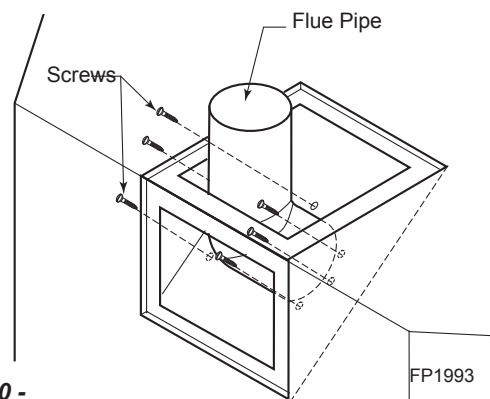

Figure 10 - Attach Flue Pipe to Top Vent Configurations
5. Replace flue pipe to top of firebox. Ensure the gasket is in place and undamaged. Secure with six (6) screws. *Figure 10*
7. Refit the flue pipe adapter and gasket to the top of fireplace. Secure the adapter with eight (8) screws removed in step 1.